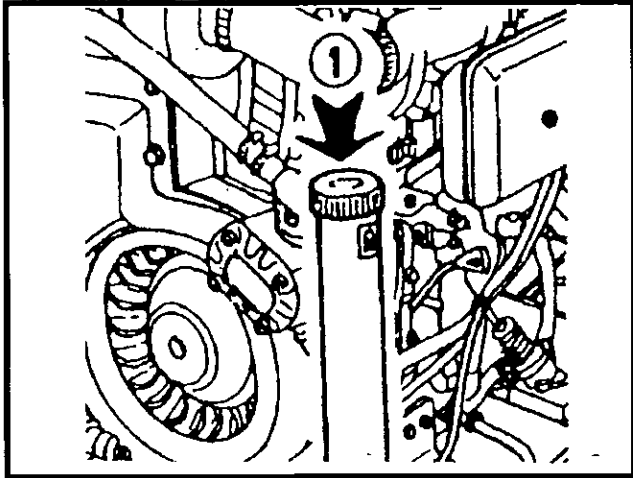

Figure 5-8 Fuel Tank Filler
1. Check fuel level at filler cap on fuel tank (1, Figure 5-8).
3. If required, add fuel through the filler tube (1, Figure 5-8).